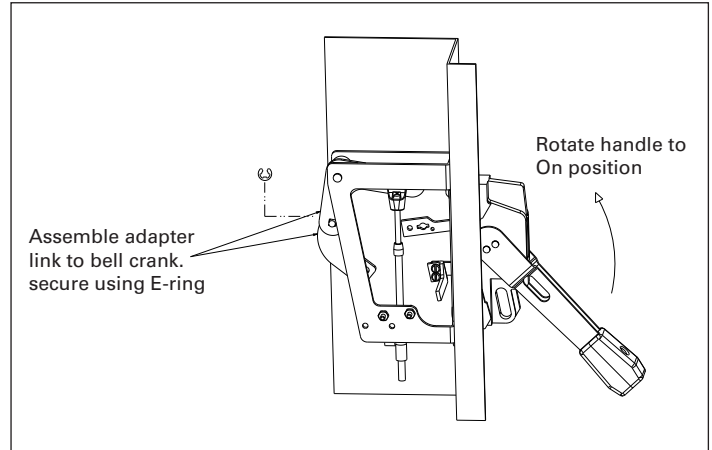

Figure 6. Assembly of the adapter link to the bell crank..
4. Insert the adapter link into the pin of the bell crank via the largest hole on the link (see Figure 6). Secure the adapter link by inserting the E-ring into the slot on the bell crank pin.